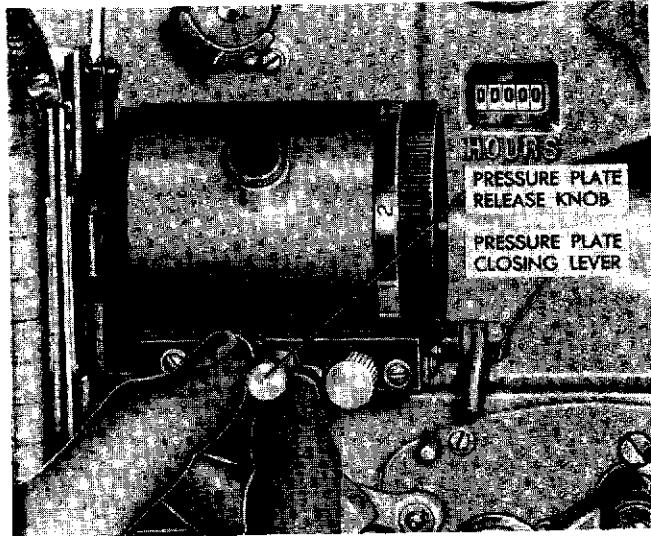

Figure 1-13. Opening the Film Channel
a. Make certain that the aperture plate is all the way down. To do this, open the film channel by pulling out the pressure plate release knob (figure 1-13). Grasp the handle of the aperture plate and push it down firmly as far as it will go. Close the film channel by pushing the pressure plate closing handle until the pressure plate release knob snaps back in.
c. Turn the threading knob to the point where the words "THREADING KNOB" are in a horizontal plane. This will place the shuttle teeth in their maximum position of protrusion for engagement with the film perforations. Open the film channel for threading by pulling out the pressure plate release knob (figure 1-13). Form a proper length of upper film loop as indicated by the loop guide line on the mechanism plate. Place the film flat on the aperture
plate as shown in figure 1-16. Make certain that the film is located in the recessed portion of the aperture plate, flat against the aperture opening, and that the shuttle teeth engage with the film perforations. Then, bring the pressure plate against the film by pushing the pressure plate closing handle (figure 1-13) to the left until the pressure plate release knob snaps back in.
b. Check the film channel to be sure that it is fully closed. If not, push the pressure plate closing handle (figure 1-13) until the pressure plate release knob snaps back in.